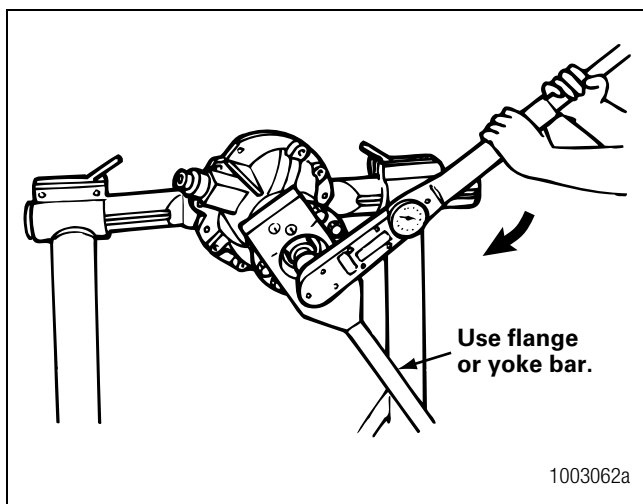

Figure 5.30
6. Install the drive pinion nut and washer onto the input pinion shaft and against the yoke collar. Tighten the nut against yoke collar to torque specifications. Figure 5.30. Refer to Section 8.